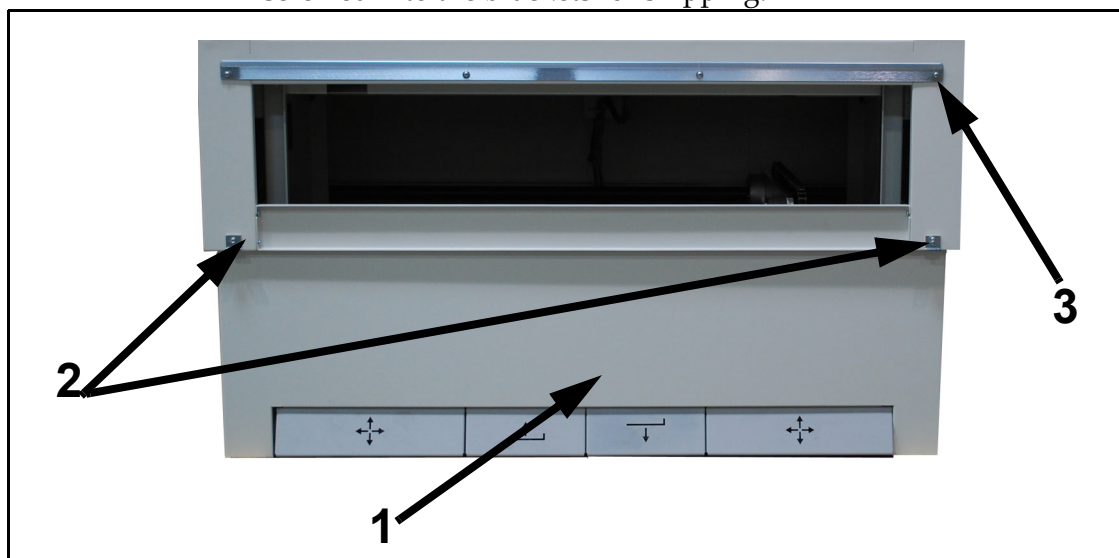
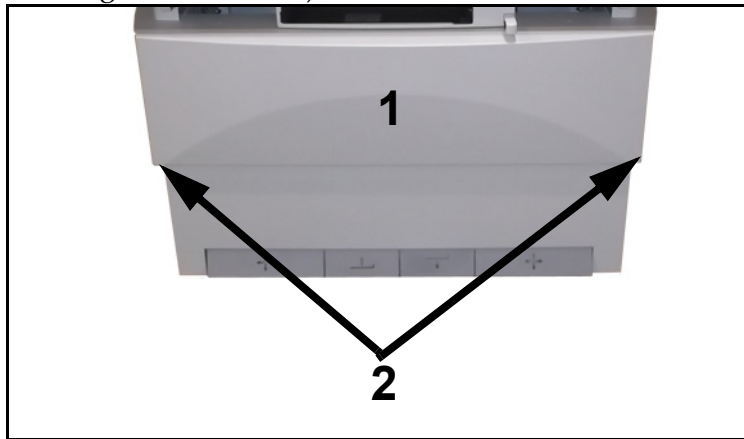

Figure 2-31. Upper Cover Mounting Screws
Figure 2-32. Upper and Lower Panel Screws
- 51** Reattach the lower front cover (1 in Figure 2-31).
- 52** Unscrew the upper cover mounting screws (2). The screws were screwed into the brackets for shipping.
- 53** Hook the top cover (1 in Figure 2-32 below) onto the upper rail (3 in Figure 2-31 *above*) and secure in place with the two screws (2 in Figure 2-32 below).